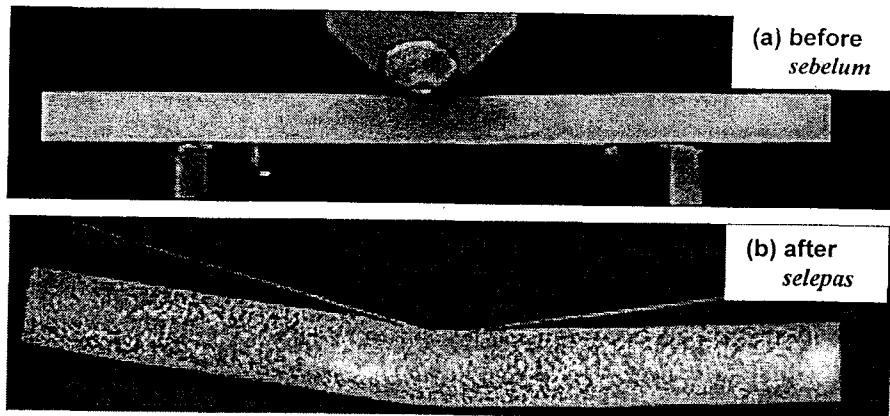

Figure 1
3. A three point flexural test was conducted on ceramic based sandwich structure as shown in Figure 1(a).
- (i) What is the failure mode shown in Figure 1(b)?